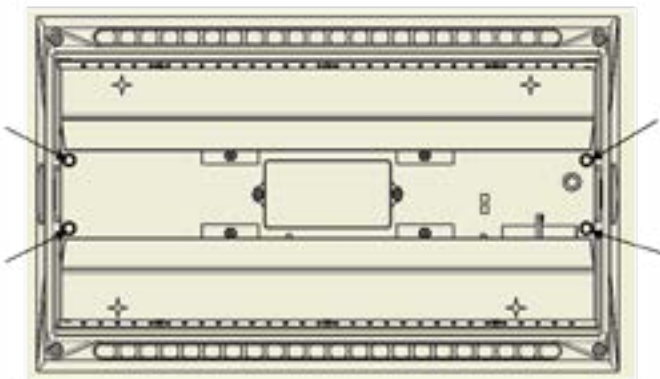

Figure 1 - Remove reflector/wireway cover
4. Remove lens from housing (9500 screwdriver, ordered separately, required for fixtures supplied with Torx® fasteners); Remove (4) 5/16" hex head screws to remove reflector/wireway cover (see Figure 1).
7. Reassemble reflector/wireway cover. Make sure reflector is pushed down at locations indicated ( Figure 1). Ensure flexible reflector clears LEDs upon installation. Note that reflector is susceptible to dirt accumulation from hands/fingers Reassemble lens to housing.